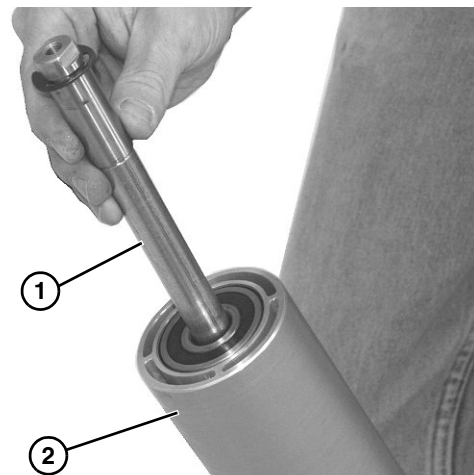

Figure 44
6. Slide the shaft assembly (Figure 44, item 1) out of the pulley (Figure 44, item 2).